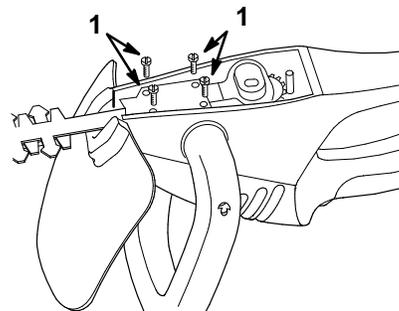

**Figure 18**
5. Align the cams that are fitted in the blade loops by moving the blades slightly (Fig. 18).
8. Ensure that the cams are still aligned (Fig. 18).